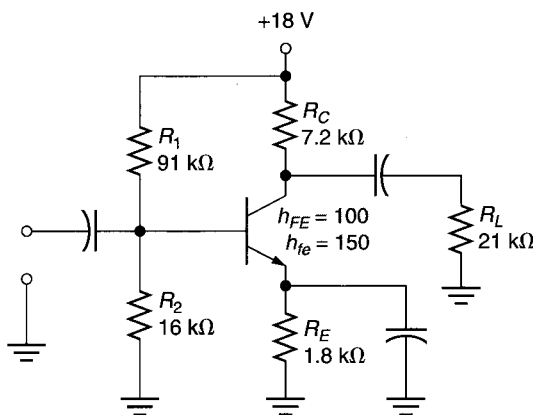

FIGURE 9.32
11. Derive the ac equivalent circuit for the amplifier shown in Figure 9.32. Include all component values.
21. Determine the value of  $A_v$  for the amplifier in Figure 9.32.
23. The amplifier in Figure 9.32 has a 12 mV input signal. Determine the value of  $v_{out}$  for the circuit.
27. Determine the value of  $A_p$  for the circuit shown in Figure 9.32. Assume that the circuit has a value of  $A_i = 31$ .
33. Calculate the open-load voltage gain for the circuit shown in Figure 9.32.
37. Determine the values of  $Z_{in(base)}$  and  $Z_{in}$  for the amplifier in Figure 9.32.